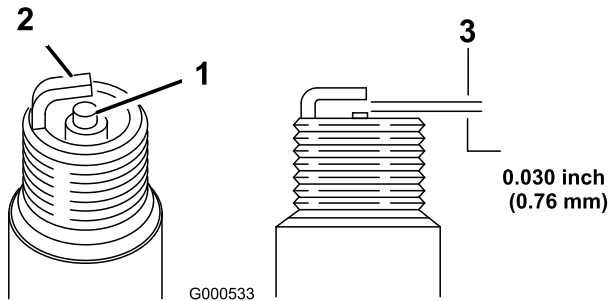

Figure 53
1. Look at the center of the spark plugs (Figure 53).
2. Check the gap between the center and side electrodes (Figure 53) and bend the side electrode, if the gap is not correct.